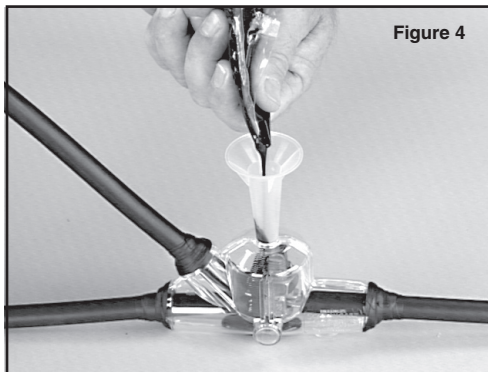
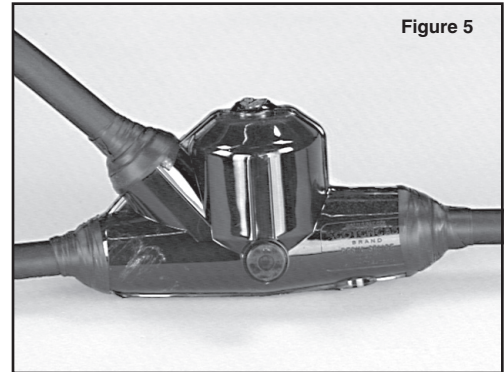

Figure 4
Figure 5
- 6.1 Position splice level. Mix resin thoroughly per instructions on resin package. Pour resin until mold and spout are completely filled (see Figure 4). Refill spout after air escapes. When resin has solidified and cooled, splice may be put into service. Clip off spout, if desired (see Figure 5).